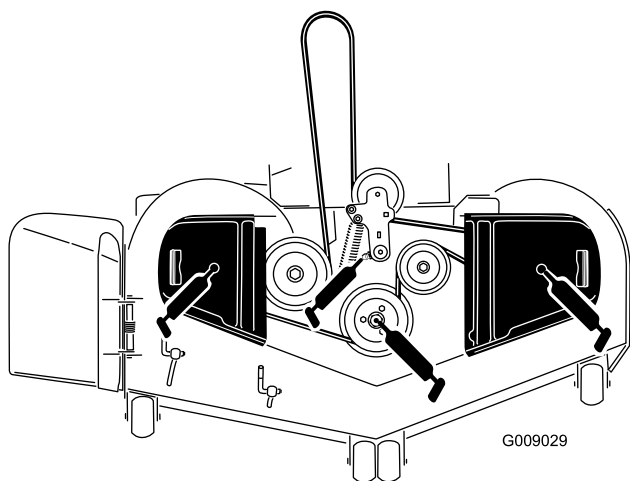

Figure 42
3. Grease the mower deck idler pulley pivot until grease comes out the bottom (Figure 42).
4. Grease the 3 spindle bearings until grease comes out the lower seals (Figure 42).
5. Grease the drive belt idler arm (Figure 42).